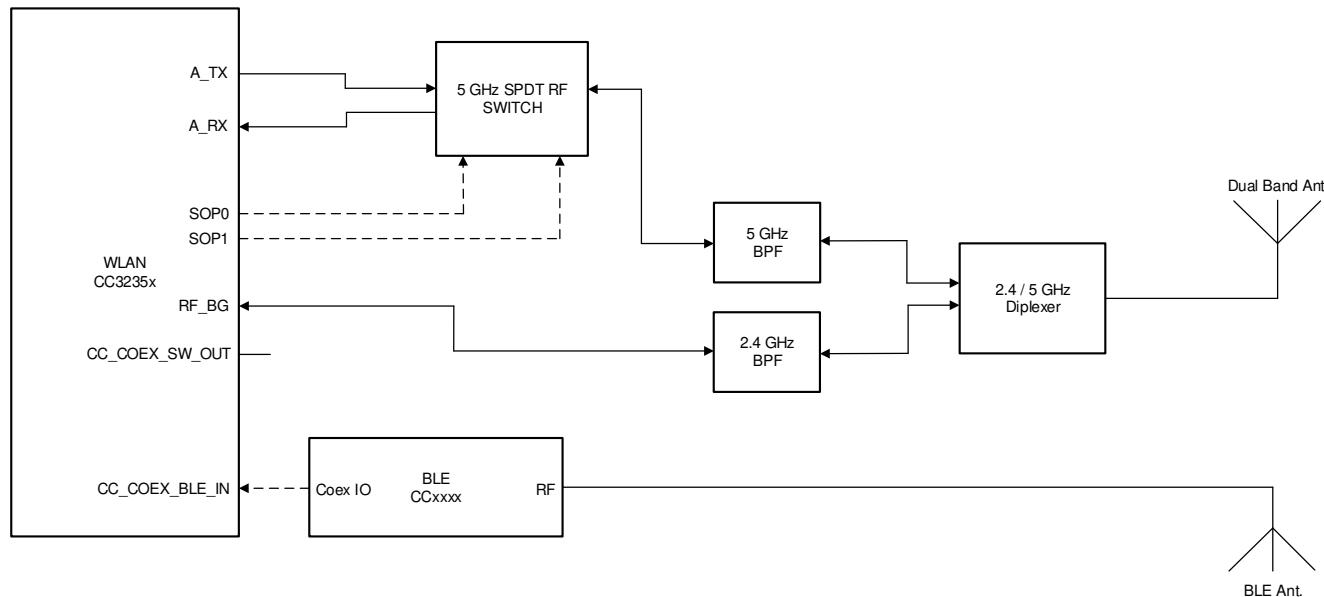

图 9-4. Dual Antenna Coexistence Solution with 5GHz Wi-Fi
- 5GHz Wi-Fi band (see 图 9-4)
图 9-4 shows the dual antenna implementation of a complete Bluetooth® low energy and WLAN coexistence network with the WLAN operating on either a 2.4- or a 5GHz band. In this case, the 2.4GHz and 5GHz Wi-Fi share an antenna and the BLE has its own dedicated antenna. The SOP lines control the 5GHz switch. Note that in this implementation, no Coex switch is required and only a single GPIO from the BLE device to the CC3235x device is required.